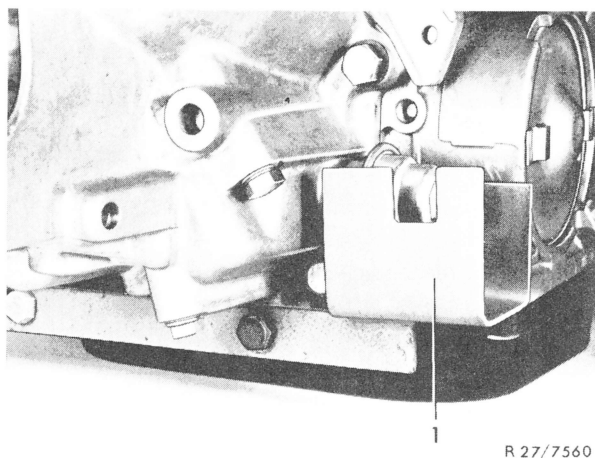

Fig. 15
All exchange and warranty transmissions are provided with a guard for the vacuum box. This guard prevents damage to vacuum box during transportation and when installing transmission. Remove guard (1) only following installation of transmission and screw back to removed transmission for return (Fig. 15).